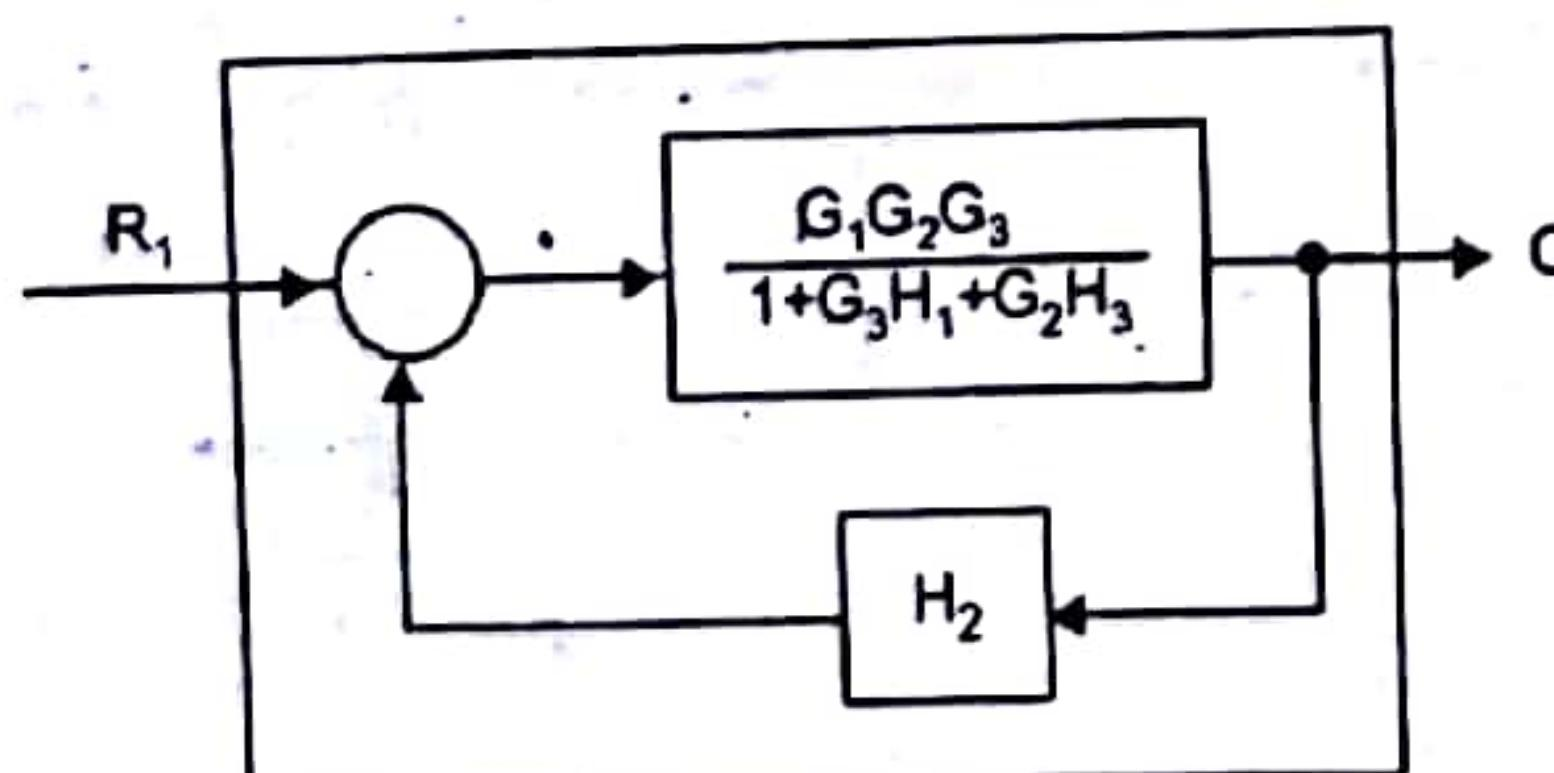
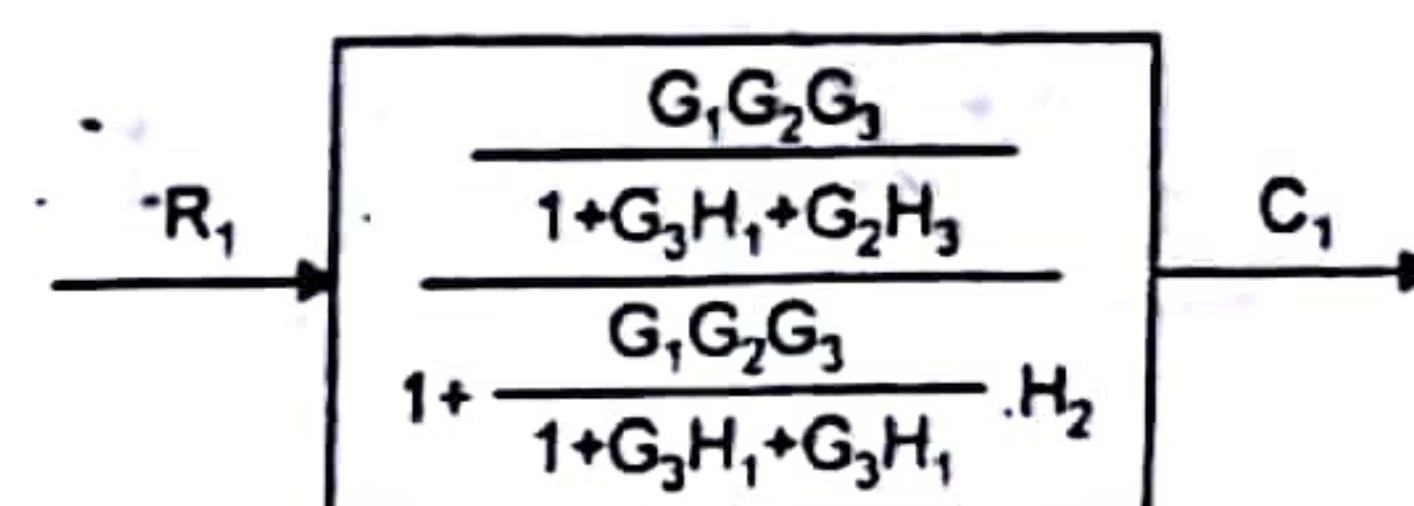

Fig. 6
Fig. 7
**Step 5 :** Combining the blocks in cascade in Fig. (5), the block diagram will be as shown in Fig. 6.
**Step 6 :** Eliminating the only loop in Fig. 6, the block diagram will be as shown in Fig. 7.